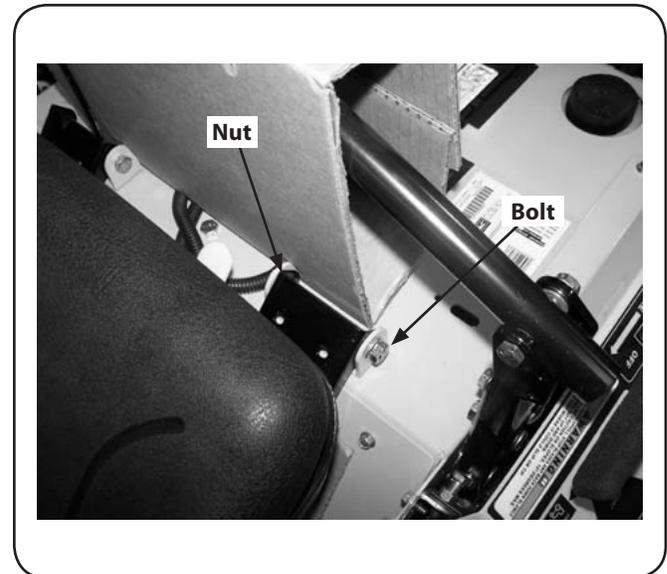

Figure 3-2
2. Remove the two shoulder bolts, nuts and spacers securing the seat as shown in Fig. 3-2.